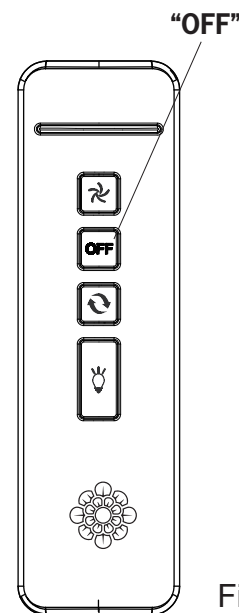

Fig. 4
2. **Learn function setting**, Restore power source to your fan, press and hold the "OFF" button for at least 4 seconds. You must press the 'OFF' button within 60 seconds of restoring power to the fan. (Fig. 4)